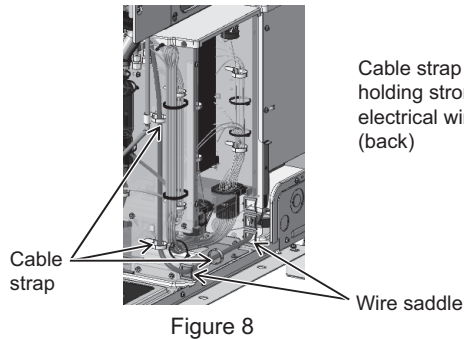

Figure 8
- (10) Loosen the three cable straps holding the wiring outside and at the bottom of the main control box, and remove the wire from the two wire saddles. (See Figure 8.)